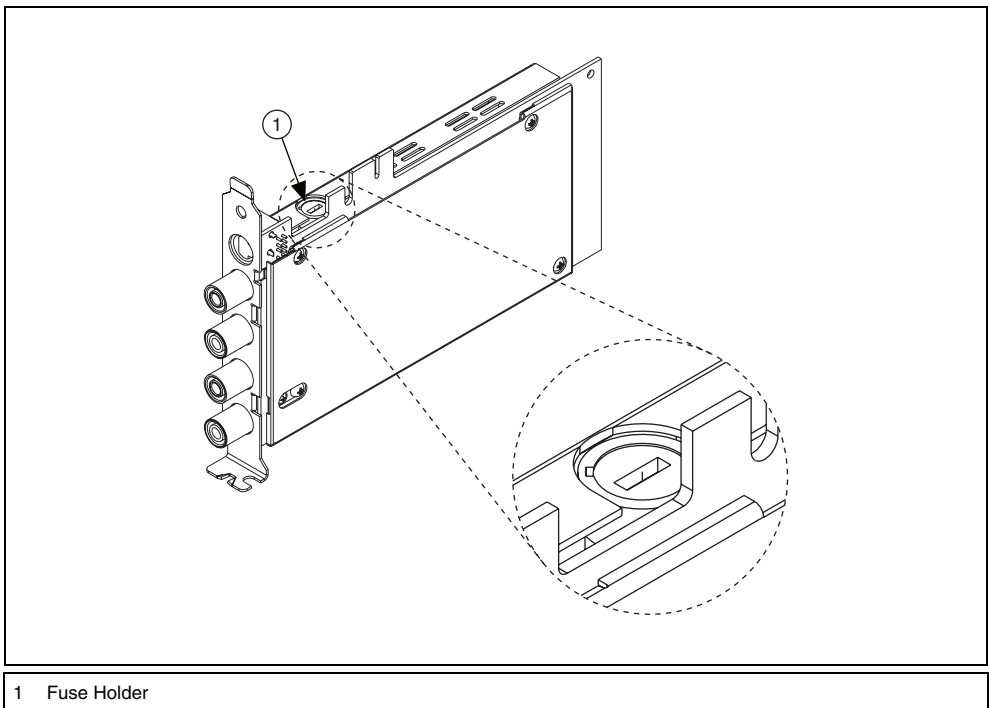

Figure 26. Locating the Fuse on the NI PCI/PCIe-4065
- **(NI PCI/PCIe-4065)** View the device at the angle shown in Figure 26.